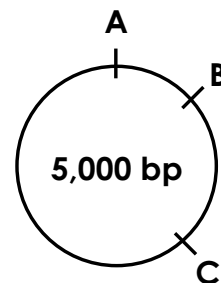
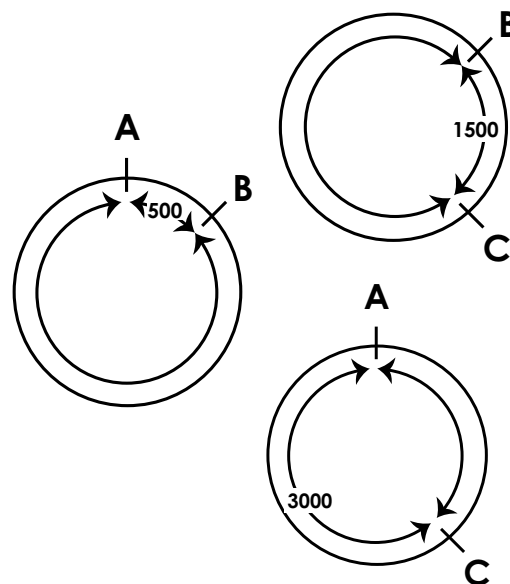

Figure 1:
Figure 2:
- Consider a 5000 base pair, circular plasmid DNA containing single recognition sites for enzymes A, B, and C (Figure 1).
These assignments are made based on the size of the entire circular plasmid, which is 5,000 base pairs (Figure 2).
pairs of enzymes. The shortest distance between A and C is 2000 base pairs since the smallest fragment in the A + C pair is 2000. Similarly, the shortest distance between B and C is 1500 base pairs. It remains to be determined if B is in between A and C (Figure 1) or alternatively, B is between C and A (going in a clockwise direction from A around the plasmid, Figure 3).
Note that the data from this experiment cannot tell us the absolute orientation of the cleavage sites since it can lead to an alternative map as shown in Figure 2. However, the relative positions are still the same (B is in between A and C). The assignment (Figure 1 or Figure 3) can be made upon further analysis.